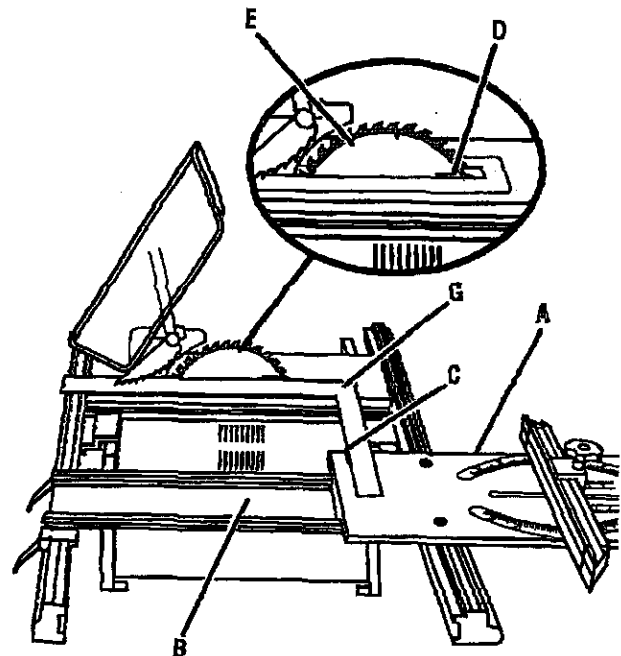

Fig. 30
See Figures 30 - 31.
- Slide miter table (A) to the front of miter base (B) as far as it will go. Place a reference mark (C) near the end of the miter table as shown in figure 30.
- Place a reference mark on one of the blade teeth (D) and rotate the blade (E) so that the reference mark on the blade is at the front of the throat plate.
- Place a framing square (G) against the blade and align with reference mark on miter table. Measure the distance between the blade and the edge of miter table.